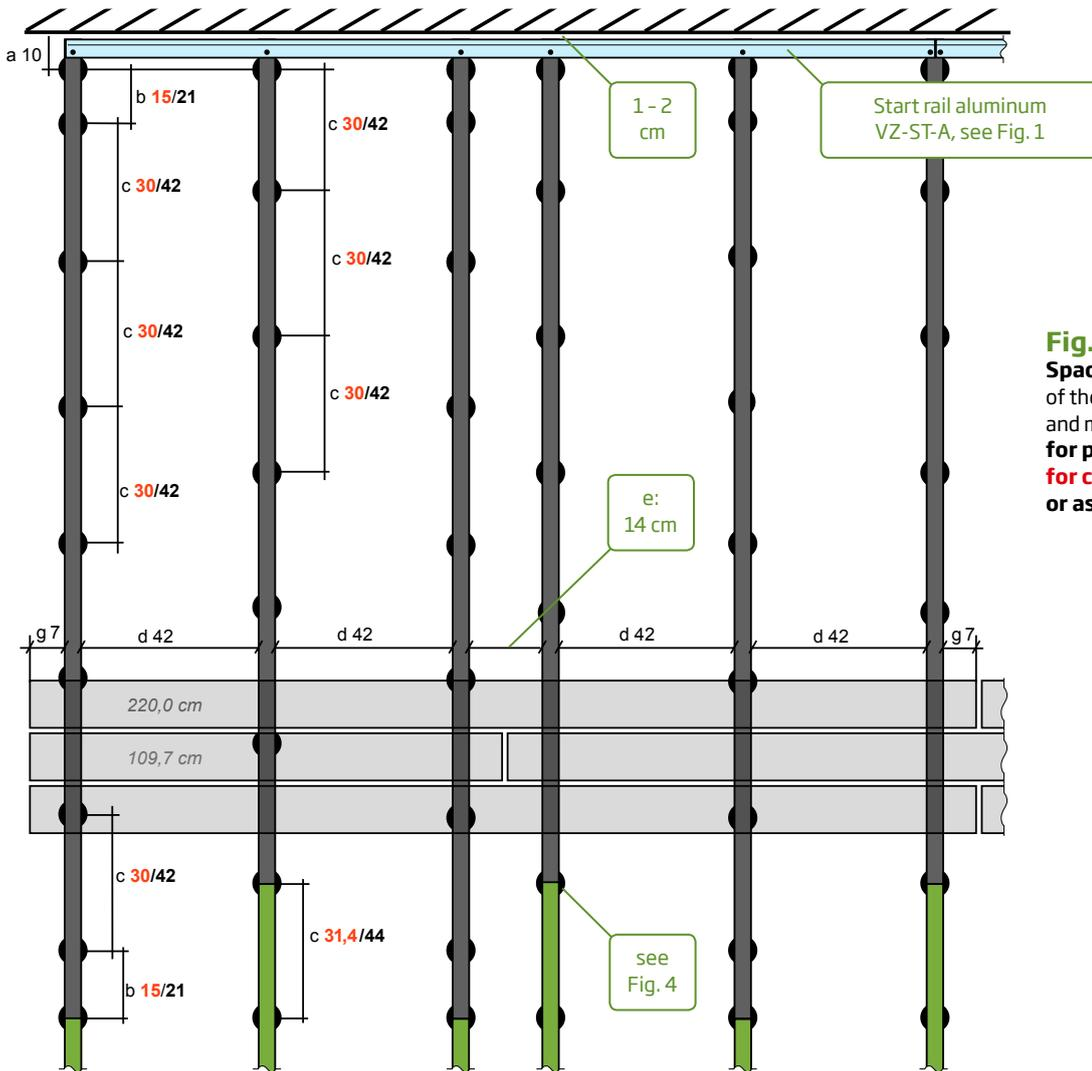
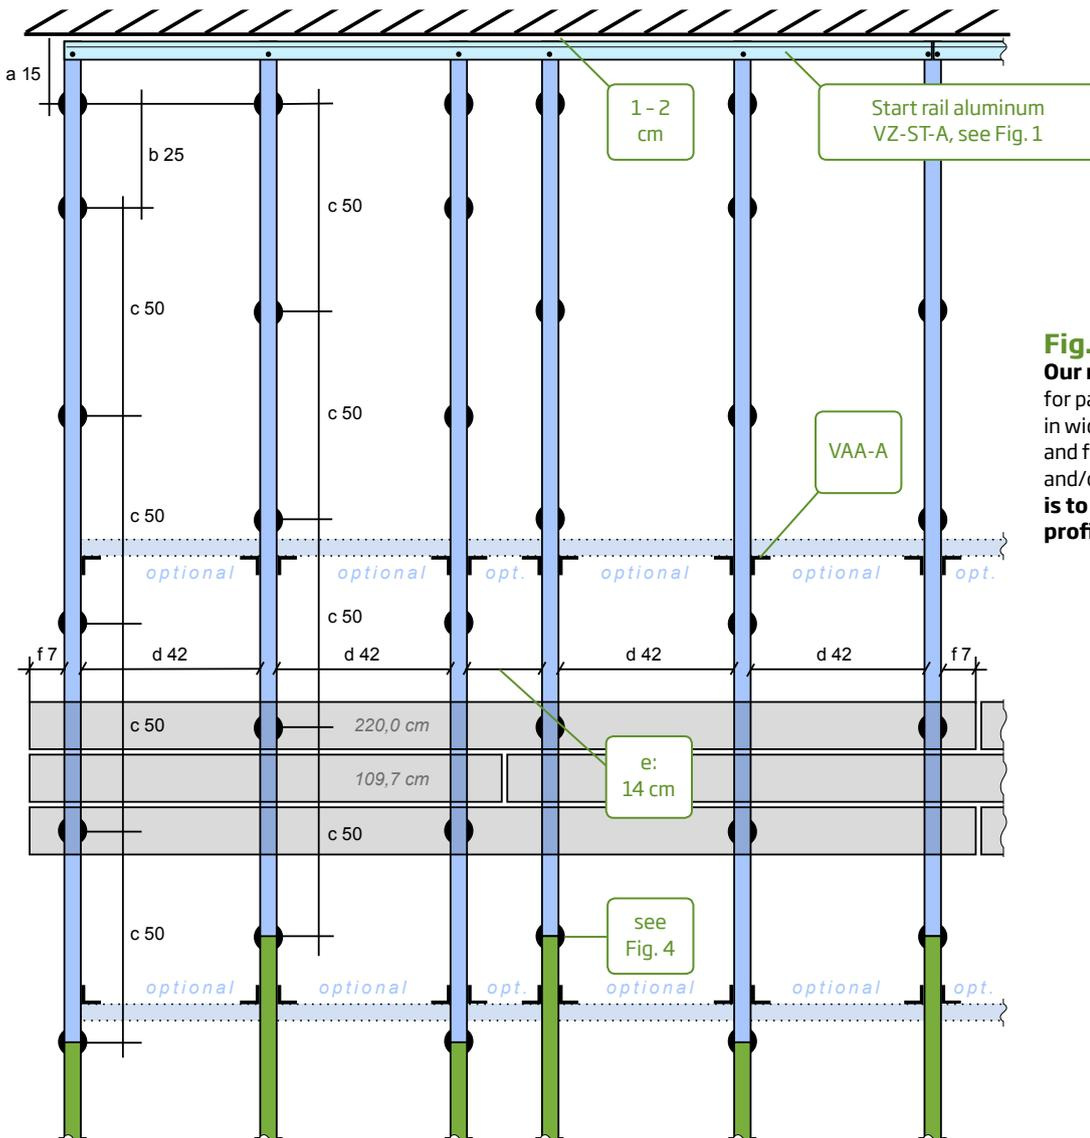

Fig. 2
Fig. 3
- Take the different installation specifications for the different uses into account, as well as the selection of the system profile (see section 3.2 as well as Fig. 2 and 3) which depends on these.
- Since the decking board expands and contracts depending on temperature and environmental humidity, the prescribed distances of 1 - 2 cm to adjacent fixed components must always be kept (see Fig. 2 and 3 as well as section 3.2, last paragraph).
- Optionally, we recommend reinforcing the sub-structure made of aluminium profiles with cross connectors if heavy loads e.g. in the event of commercial use, are to be expected (see Fig. 3).
- The spacing between the cross connectors should not exceed 1.0 m. The aluminium starting strip counts as the first cross connection. (see Fig. 3)
Keep a distance of 1 - 2 cm to all fixed components. Align the other profiles at the necessary distances to one another (see Fig. 2). Check the levelness and gradient of the sub-structure again.
Keep a distance of 1 - 2 cm to all fixed components. Align the other profiles at the necessary distances to one another (see Fig. 3). Check the levelness and gradient of the sub-structure again.
For narrow segments less than 80 cm wide, at least three system profiles must be provided as supports. Position the system profiles in the direction of the gradient on the prepared base. Keep a distance of 1 - 2 cm to all fixed components at the head end. Align the other profiles spaced out (see Fig. 2 or Fig. 3) in relation to one another. Check the levelness and gradient of the sub-structure again.
Now insert the second system profile as far as it will go onto the system profile coupling. Then screw the second system profile to the coupling as well. Only use the stainless steel screws Ø 3.2 x 25 mm (VZ-B-25) provided for attachment. Plan offset of the joints from one row to the next so that the points are not all in one line (see Fig. 2 or Fig. 3). Pre-drilling prevents chipping during screwing. Always avoid overtightening the screws as the durability of the screwed joints will otherwise be reduced.